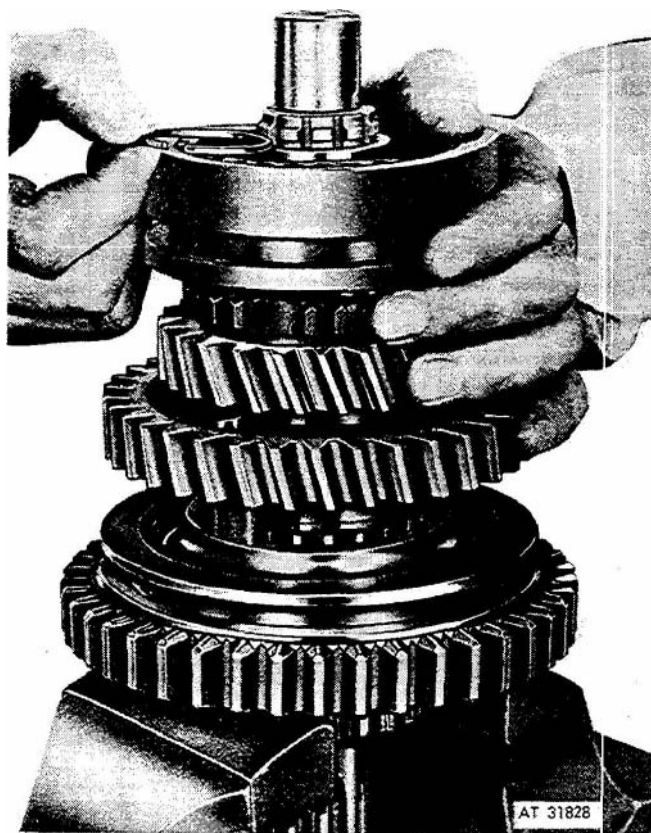

Figure 3-32. Selecting proper snap ring.
*Note: Snap rings are supplied in four thicknesses, 0.083, 0.087, 0.091, and 0.095 of an inch. Select ring **that**, when installed, will provide a maximum of 0.007 of an inch clearance between rear face of ring and front face of third and fourth speed clutch hub (fig 3-32).*